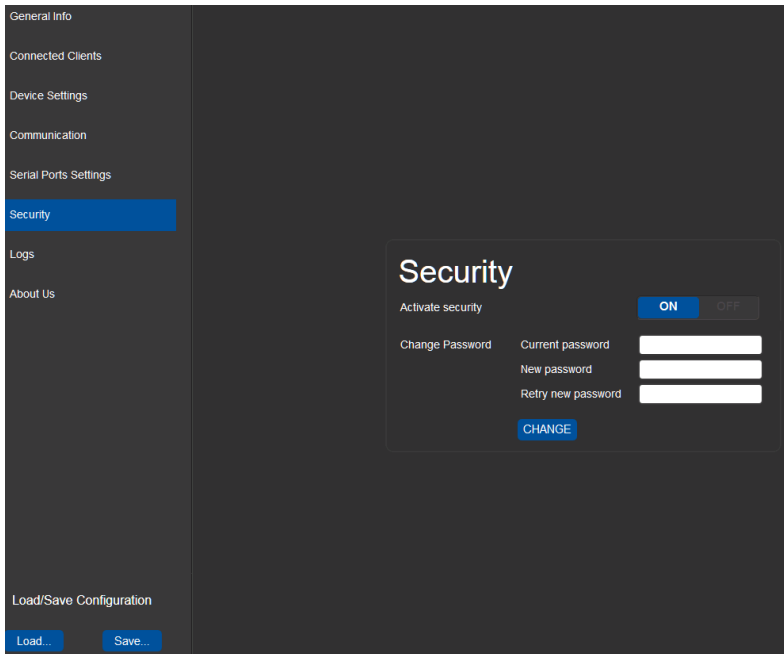

Figure 20: Security Activated Page
- The page show in Figure 20 is displayed.